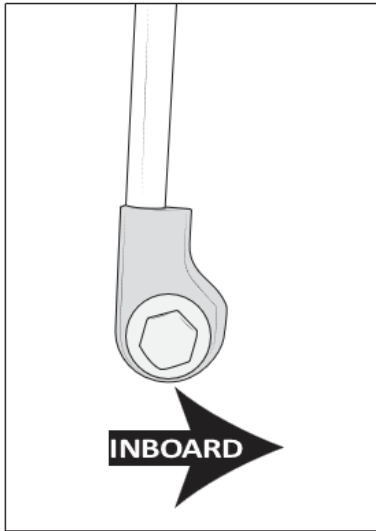
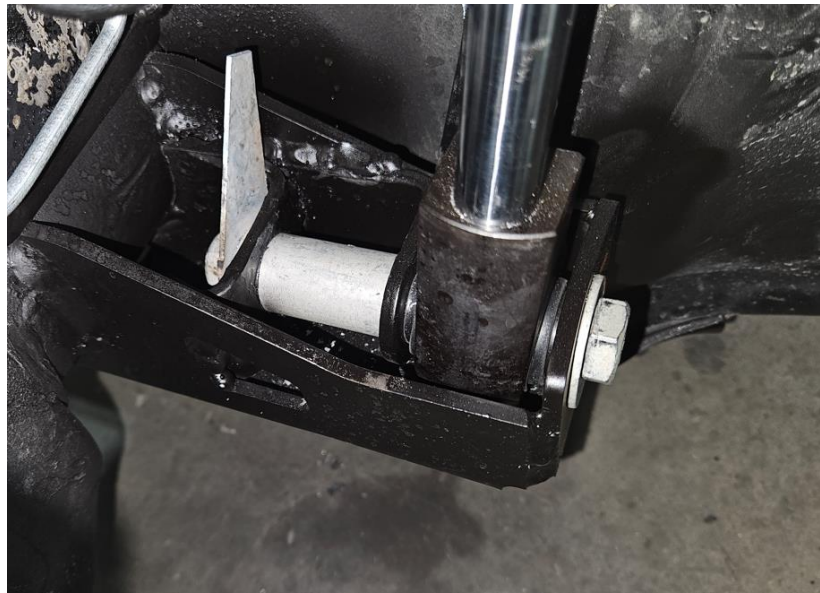

Figure 6
Figure 7
2. Install lower shock bushing to axle. Shock bushing has offset end to clear radius arm hardware, bushing must be oriented to be offset inboard as shown (fig. 6). Once in correct orientation, place washer on provided M14x120mm bolt and feed through the shock bushing from the rear. Bushing does NOT go between the mounting brackets like factory orientation. Put provided crush sleeve in factory bushing location, place shock bushing back face of rear OEM bracket and front face of AEV reinforcement bracket, and feed the bolt through the rear bracket, shock, crush sleeve, and front brackets. Install provided M14 flange nut to the front and torque hardware to 100 ft-lb. (fig. 7).